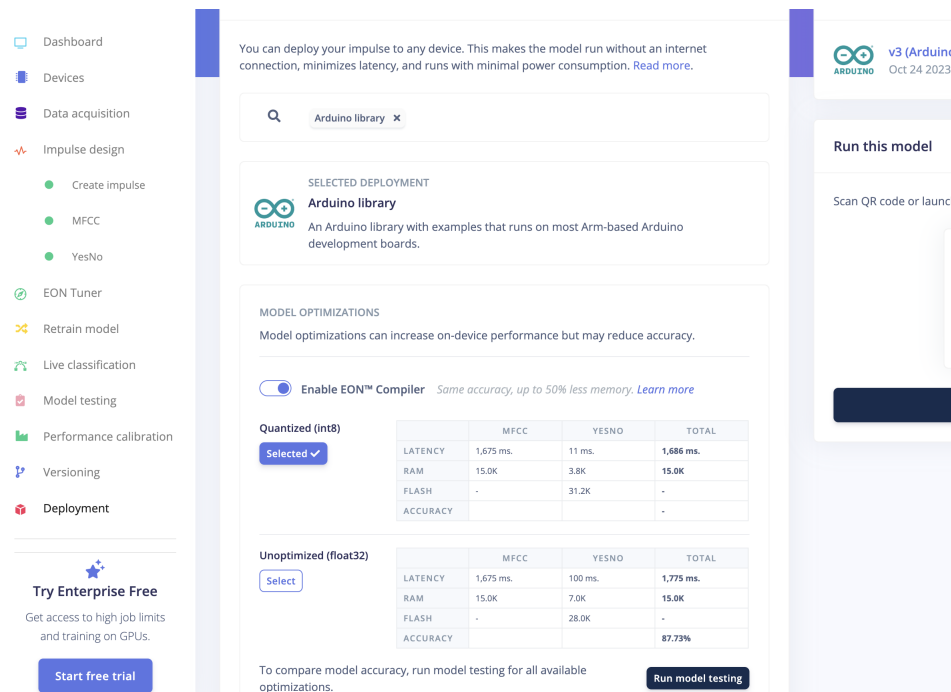

Figure 9.5: This shows a model read to build as an Arduino library.
25. Search deployment options for Arduino library so that it looks like Figure 9.5